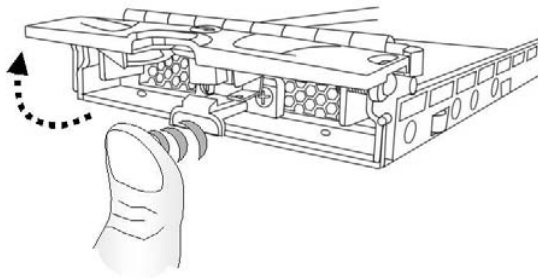

Figure 5-14: Opening the Front Flap
Step 3. Open the front flap by pushing the release button at the front of the drive tray. (See **Figure 5-14**) The front flap will automatically swing up into position.